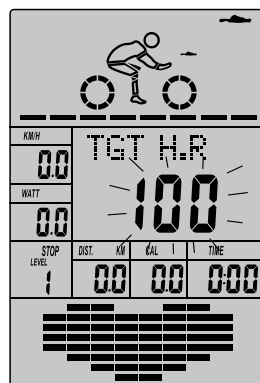

Fig 32
- The target heart rate display will flash, and then press (or rotate) button UP/DOWN to set up your target heart rate. Press ENTER to confirm the value. (Fig 32)